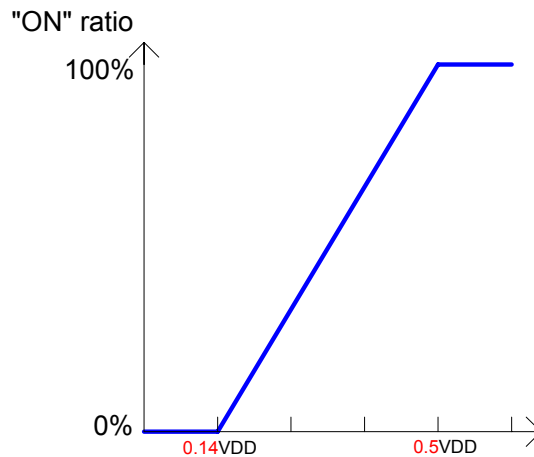

Figure.3
Applying a constant(DC) voltage to the PWM pin and the FD0256b will generate PWM pulses internally with the "ON" duty cycle ratio according to the diagram below(Figure.3), which can be utilized by the user to control the speed of the motor. The rotation speed will be higher if the voltage applied to the PWM pin is higher.